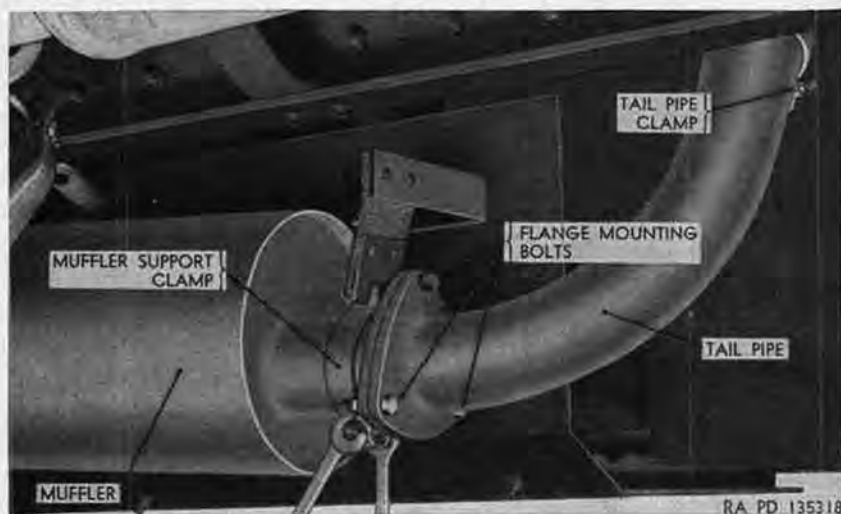

Figure 161. Muffler support and tail pipe mounting.
- (2) Remove three nuts and bolts securing flange at rear of muffler (fig. 161) to flange at front of tail pipe.
- (3) Remove nut and bolt from bottom of muffler support clamp (fig. 161), spread clamp, and remove muffler. Remove and discard exhaust-pipe-to-muffler gasket and muffler-to-tail-pipe-flange gasket.
- (2) Position muffler support clamp (fig. 161) on rear of muffler, install nut and bolt at bottom of clamp, and tighten.
- (3) Place new gasket on flange on front of tail pipe (fig. 161), position flange and gasket against muffler rear flange, install three nuts and bolts, and tighten.
(fig. 161)